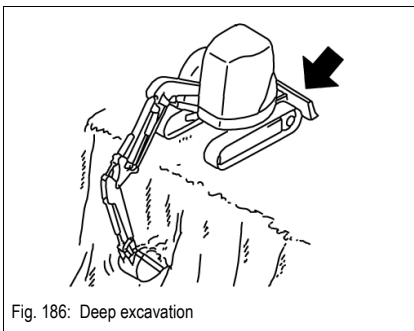

Fig. 186: Deep excavation
- We recommend using the first work position (Fig. 186) described above and to ensure that piston rod **A** does not touch stabilizer blade **B** under any circumstances.